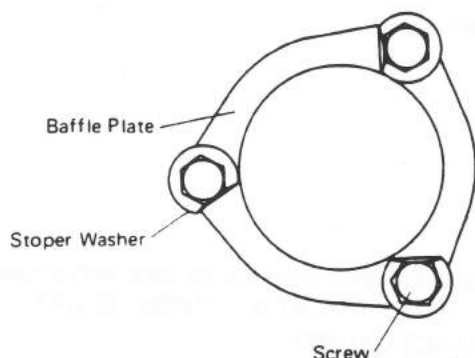

Fig. 12 Fitting Baffle Plate
1. Fit stopper washers to the three screws (M10 x 25) and attach the baffle plates. Bend the washers and tighten the screws (Fig. 12).